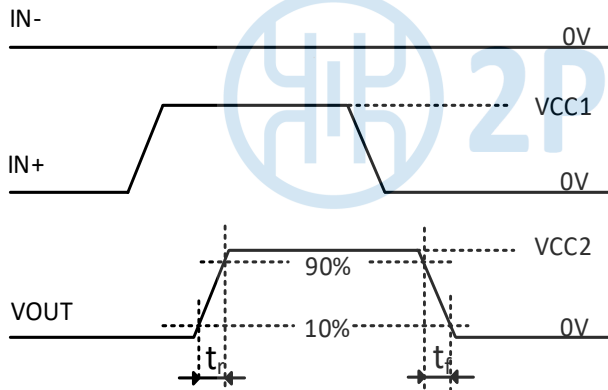

Figure20. Transition time waveform measurement
(2) t_r means is the time from 10% amplitude to 90% amplitude of the rising edge of the signal, t_f means is the time from 90% amplitude to 10% amplitude of the falling edge of the signal. See Figure20.